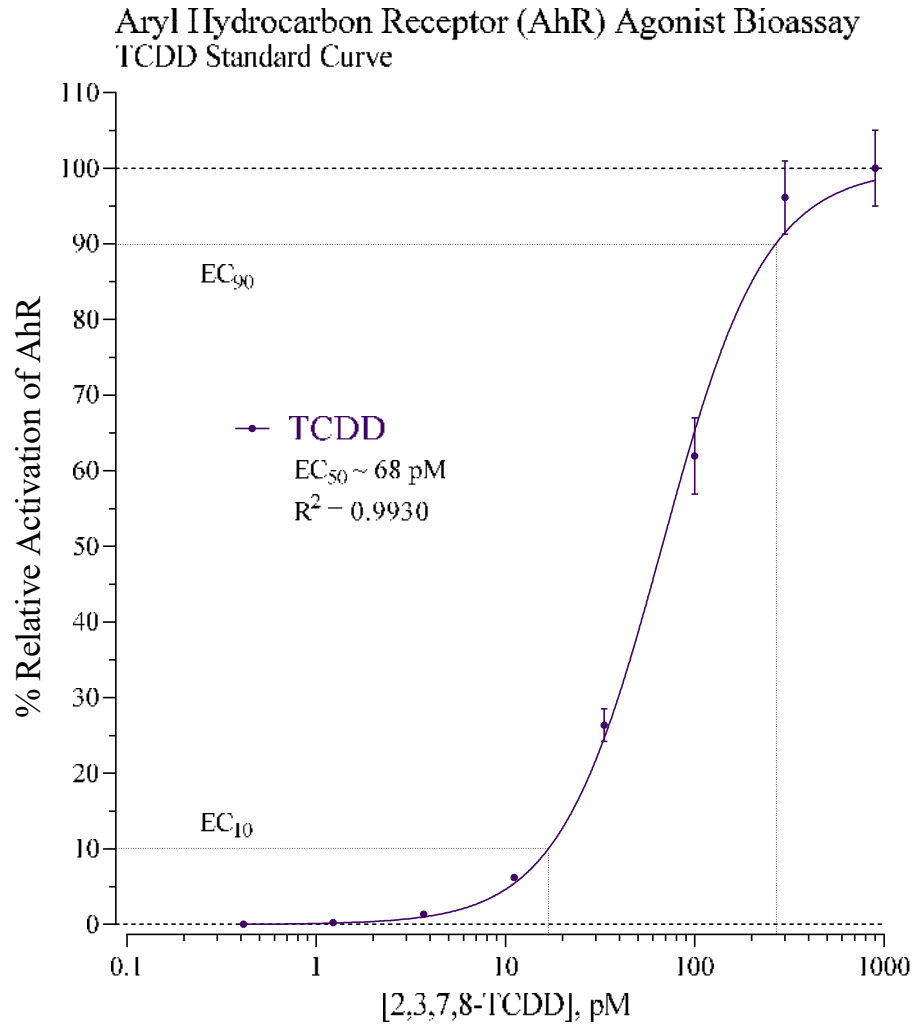

Figure 2. Generating a Standard Curve of TCDD activity.
Procure TCDD (see *CAUTION*, pg. 4). Use DMSO to prepare a 225 nM stock. Use a portion of this stock to generate a TCDD Standard Curve, which will then be used to determine the TCDD Bioequivalent (TCDD-BEq) activities of all test samples. As depicted in **APPENDIX 1**, begin by using DMSO to generate intermediate stocks that are 250x-concentrated relative to each final assay concentration. Next, perform a 125-fold dilution of these intermediate stocks by transferring a portion of each into CSM, thereby generating **2x-concentrated** Treatment Media, to be used in *Step 10*. As depicted in **APPENDIX 1**, the following 8-point treatment series (in terms of *final* assay concentrations), prepared in serial 3-fold decrements, is recommended for use in generating the Standard Curve: 900, 300, 100, 33.3, 11.1, 3.70, 1.23, and 0.412 pM TCDD. Always include a ‘vehicle only’ control, which will be 0.4% DMSO. A representative plot of a typical TCDD Standard Curve is depicted in **Figure 2**.
19.) Data analyses. Many regulatory agencies have adopted acceptance criteria for functional bioassays based on units of *Percent Relative Activation* of the receptor. As an example, the representative TCDD Standard Curve depicted in **Figure 2** is constructed in terms of those units. **APPENDIX 3** provides guidance for the mathematical manipulation of raw RLU measurements to achieve final calculations of '% Relative Activation of AhR'. That series of calculations may be applied to all Control and Test samples.